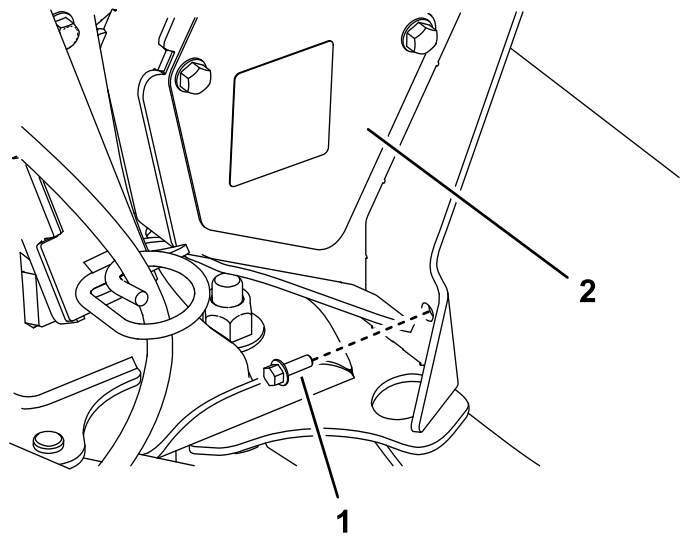
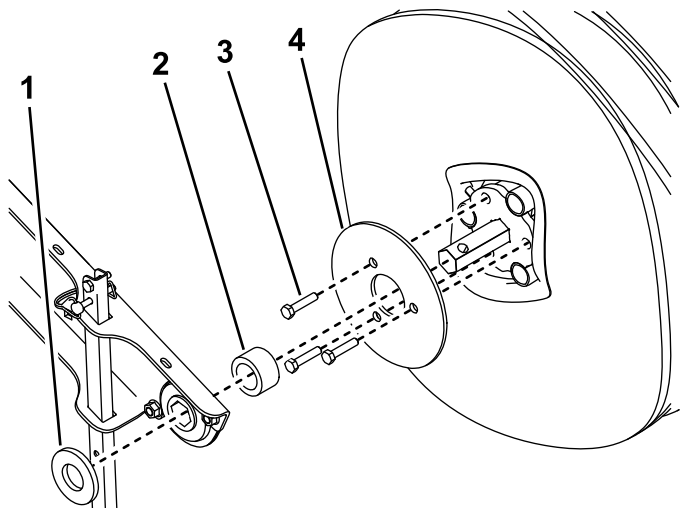

**Figure 22**
**Figure 23**
5. Remove the 2 bolts (1/4 x 3/4 inch) on the left and right sides of the broom (Figure 22).
6. Remove a rear bolt from both sides of the drive assembly and remove the hood (Figure 23).
7. Remove the 4 carriage bolts (3/8 x 1 inch), 4 nuts (3/8 inch), and the lynch pin on the left and right sides of the broom to separate the broom from the assembly (Figure 22).
18. Install the lynch pin (Figure 22).
20. Install the hood using 2 bolts (1/4 x 3/4 inch) on the rear of the broom (Figure 23) and the 2 bolts on each side of the broom (Figure 22). Torque the bolts to 11 N·m (100 in-lb).